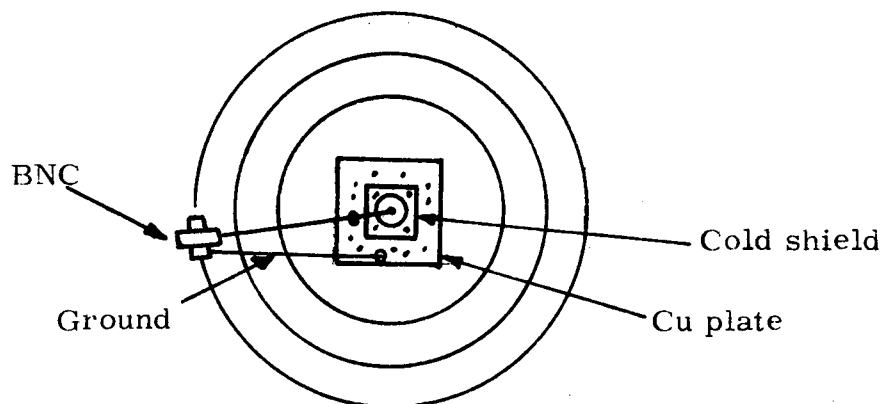

Figure 10. Mounting of the detector element
G. The cooled detector (see figure 10)